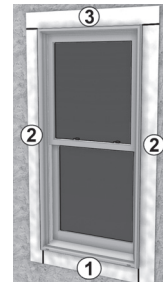

Figure 4
- (Recommended)** Following the flashing manufacturers' recommendations, apply flashing to the nail fins and surrounding wall surface starting with the bottom, then the sides, and finally the top, creating a shingle effect (reference **Figure 4**). **⚠️ NOTE: Where pan flashing is present, do not use flashing that will impede proper drainage of the pan on the bottom.**